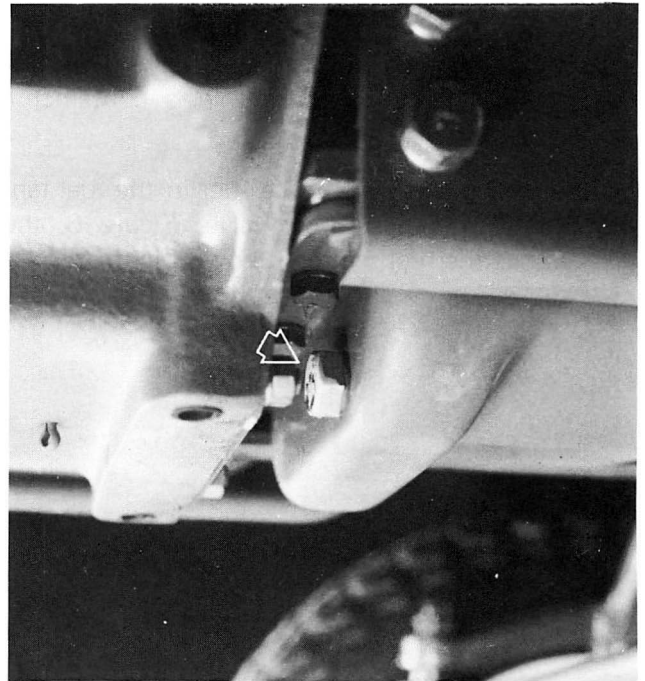

Figure 34 — Engine Oil Drain Plug
1. With the engine off, but at normal operating temperature, drain and discard the engine oil by removing the drain plug, Figure 34. Reinstall the plug after the oil has drained and discard the oil.